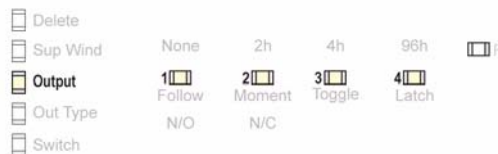

Figure 5 Select the Output Number
5. Use the **Advance** button to select the output number (Fig. 5). Press **Program** to complete and advance to output type option.